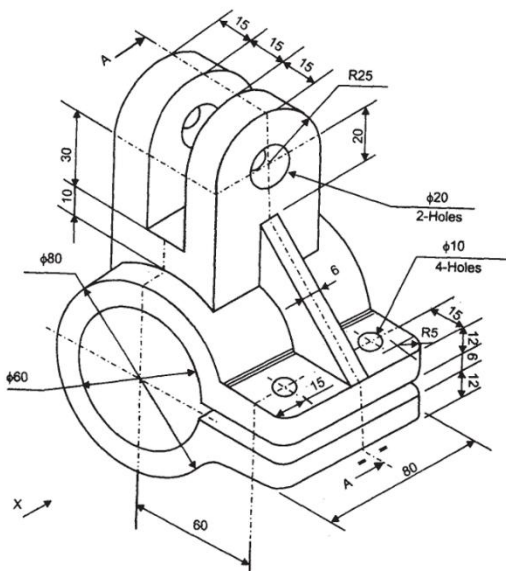

Fig: 4.1
- a. Prepare 3D part model of figure 4.1 and 4.2
- b. Generate Front View and Top view of figure 4.1 and 4.2